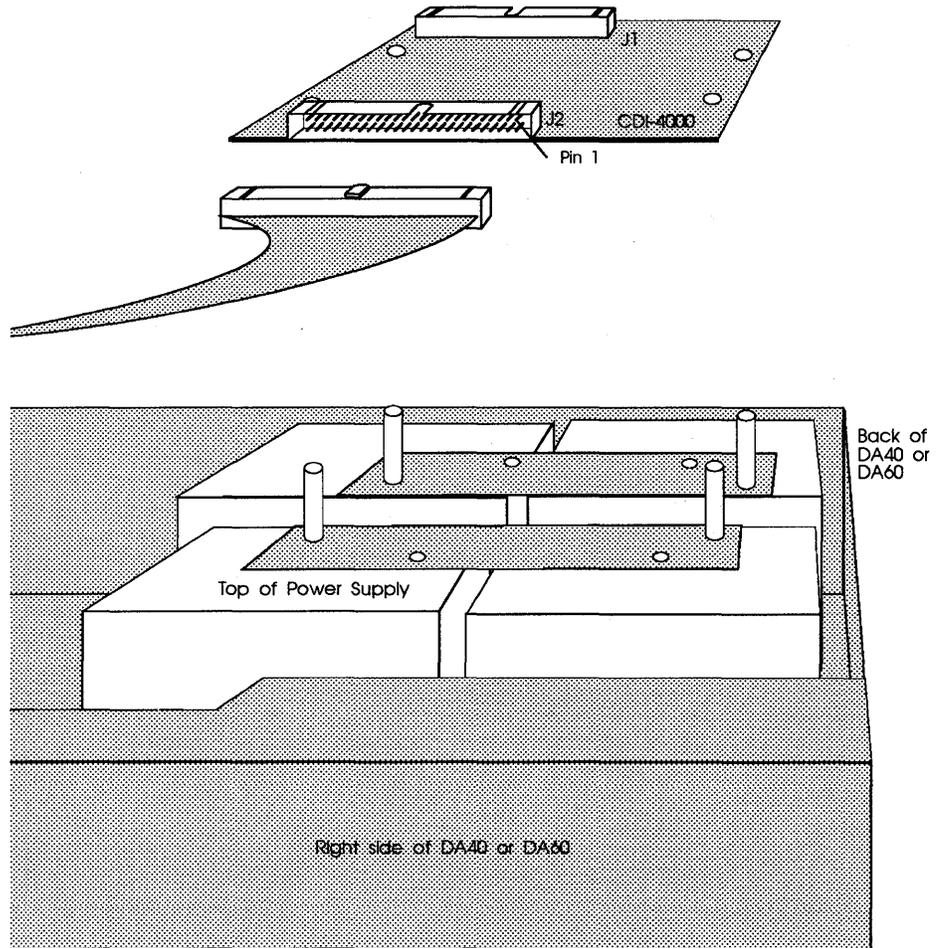

Figure 6-2: SCSI port (J2) cable connection
- 7 Connect the end SCSI connector on the SCSI cable with five connectors to the CDI-4000 at J2, SCSI port; (see Figure 6-2).